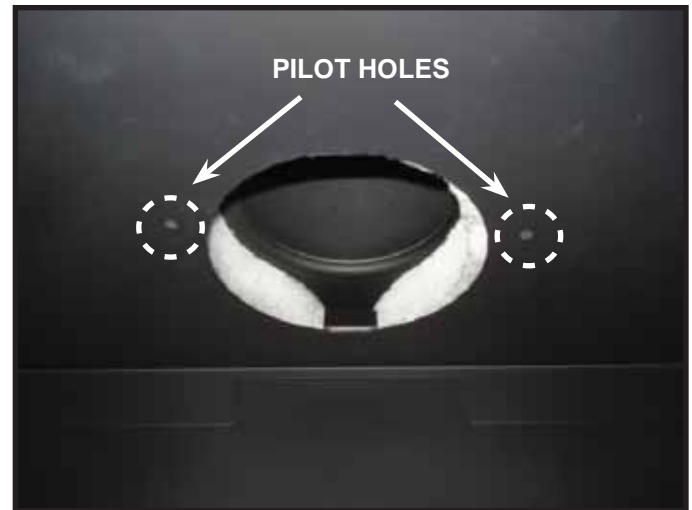

Figure 7.9 Location of Pilot Holes
3. Use (2) ½" self-piercing screws to secure vent restrictor to firebox heat shield. See Figure 7.9